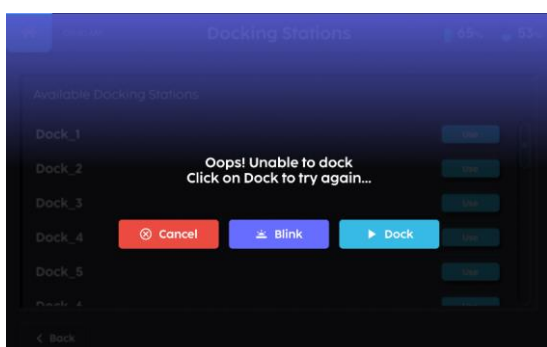

Fig. 5
6. If robot is unable to dock, select 'Dock' to try again (Fig 5). To terminate process, select 'cancel'.